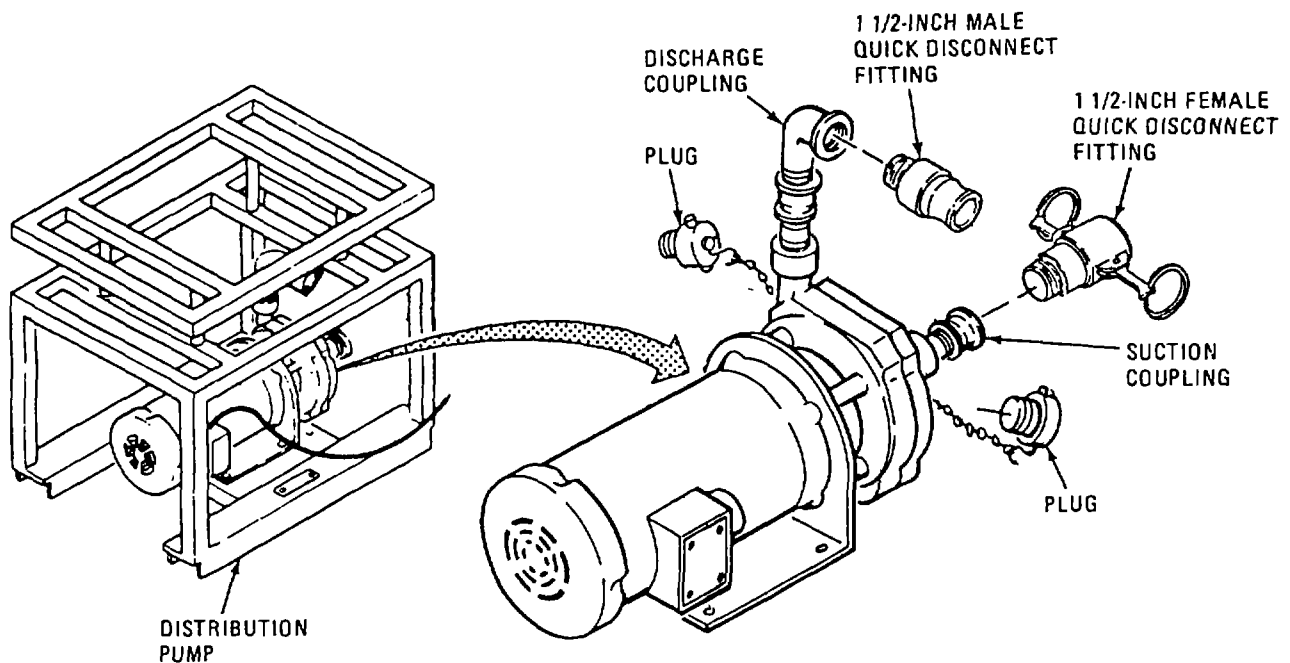

Figure 2-29. Distribution Pump Quick Disconnect Fittings.
- h. Install Distribution Pump Quick Disconnect Fittings. Refer to figure 2-29.